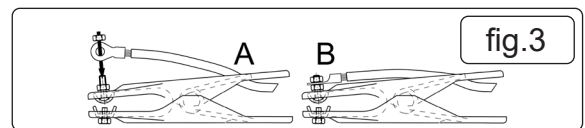

fig.3
4.3. ASSEMBLING THE EARTH CLAMP (Refer to fig.3)